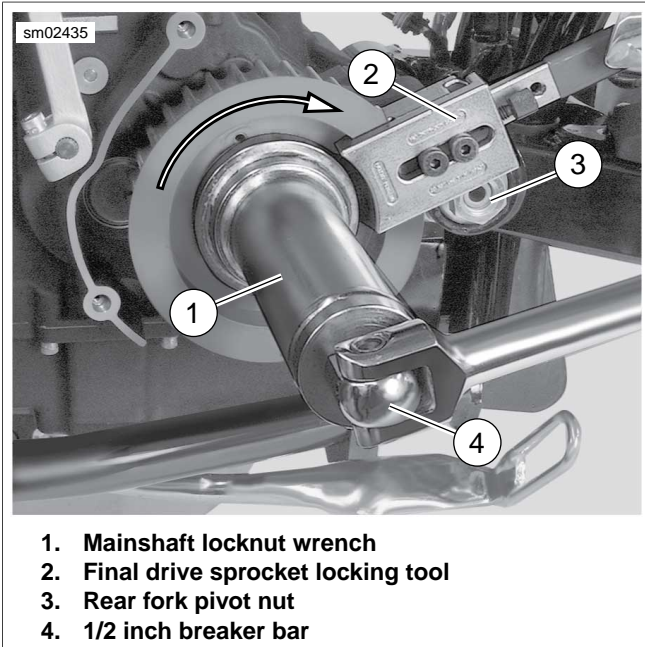

Figure 5-41. Sprocket Nut Installation (Typical)
- See Figure 5-41. Lock transmission sprocket with the FINAL DRIVE SPROCKET LOCKING TOOL (Part No. HD-46282-A) (2). Final drive sprocket locking tool must rest against upper portion of rear fork pivot nut (3).
- Using MAINSHAFT LOCKNUT WRENCH (Part No. HD-47910) (1), tighten sprocket nut to 35 ft-lbs (47.5 Nm) initial torque.